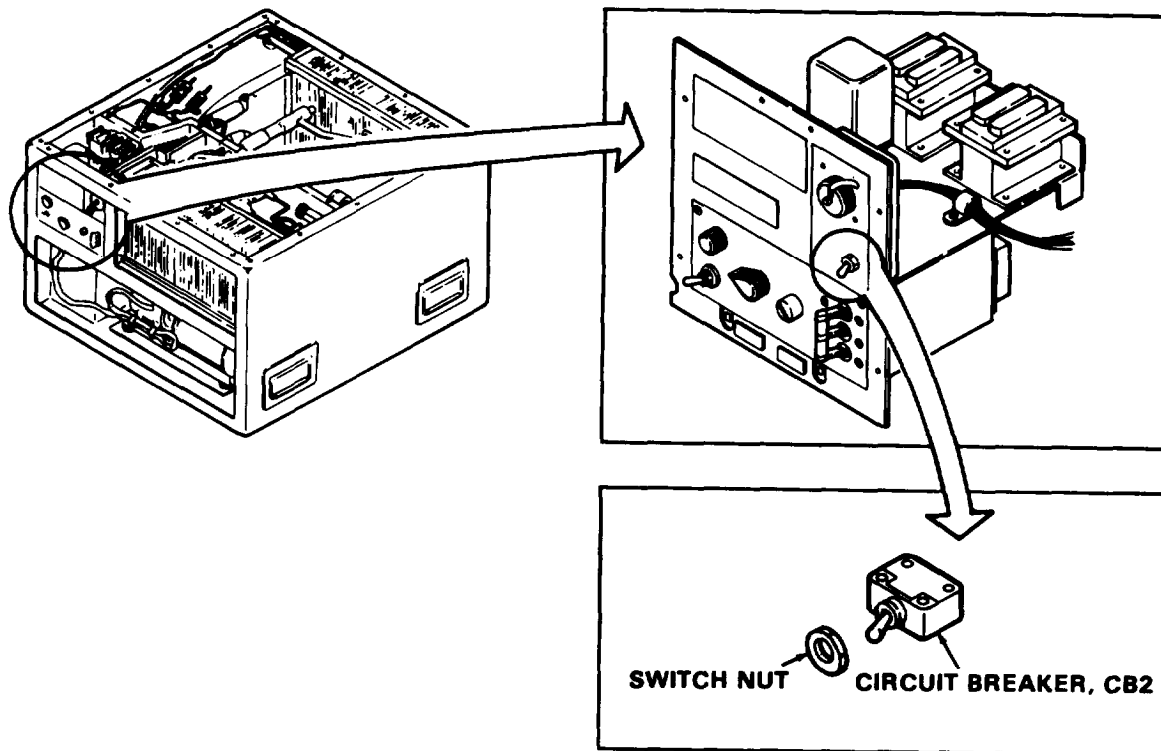

Figure 4-16. Control Circuit Breaker.
- (1) Refer to paragraph 4-29 and remove the Junction Box .
- (2) Refer to figure 4-16 and remove the control circuit breaker.
- (1) Refer to figure 4-16 and install the control circuit breaker.
- (2) Refer to paragraph 4-29 and install the junction box.
- (1) Refer to figure 4-16 and install the condenser high speed relay.